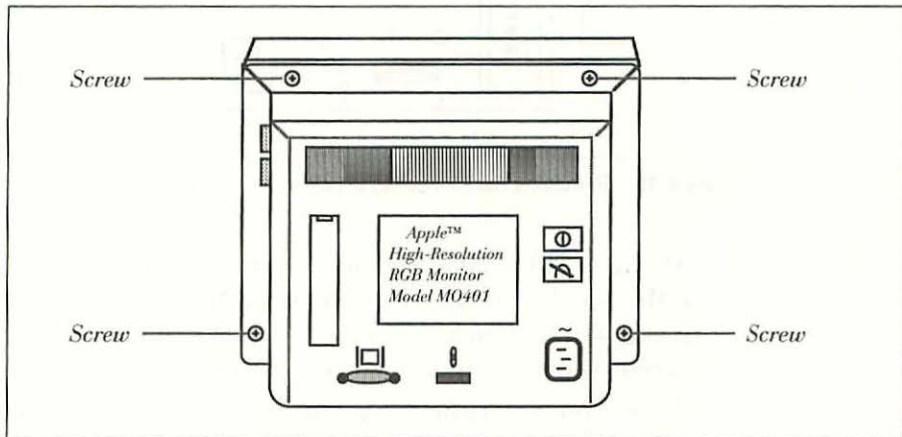

Figure 3-17 The back cabinet of the AppleColor High-Resolution RGB Monitor is held by four Phillips-head screws.
4. Set up a container for holding small parts. As shown in Figure 3-17, the back cabinet of the AppleColor High-Resolution RGB Monitor is held by four Phillips-head screws. One screw is located in each corner. Lay the monitor face down on a soft towel and remove the screws using a #1 Phillips-head screwdriver. Place the screws in the parts container. Lift away the cabinet back and put it aside.